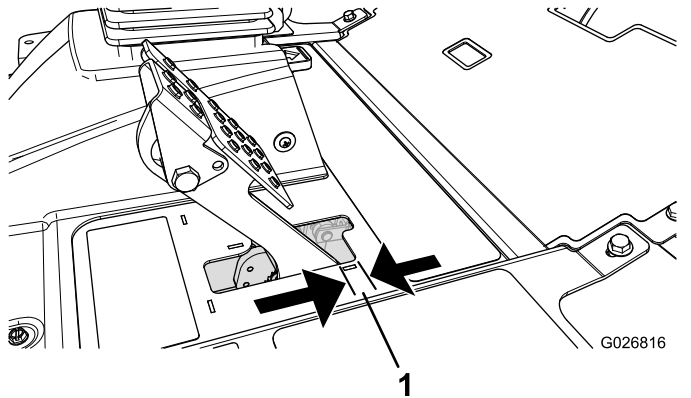

Figure 84
Adjust the brakes when there is more than 2.5 cm (1 inch) of free travel of the brake pedal, or when more holding force is required (Figure 84). Free travel is the distance that the brake pedal moves before you feel braking resistance.
2. Tighten the rear nut to move the cable backward until brake pedals have 0.63 to 1.27 cm (1/4 to 1/2 inch) of free travel, before the wheel locks up (Figure 84).